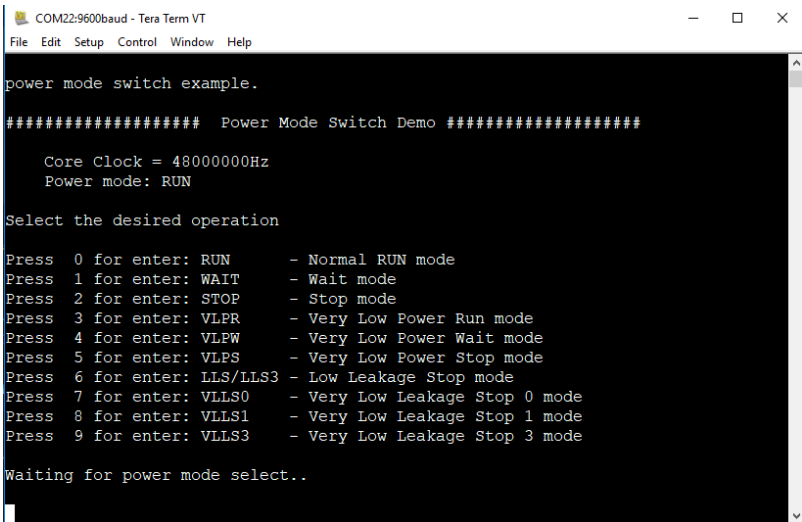

Figure 8. Power mode selection on UART terminal
5. The UART terminal also shows the menu of the power mode selection, as shown in Figure 8.